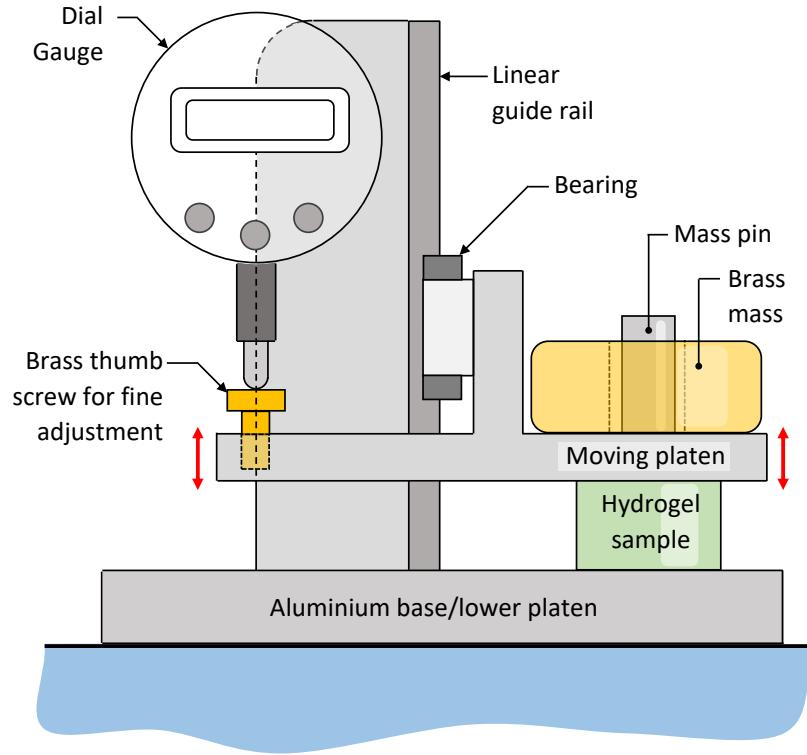

Figure 4: Schematic illustration of the compression set-up used for measuring the mechanical properties of agarose hydrogel.
In contrast to many engineering materials, hydrogels tend to have very low stiffnesses – typically ranging from 1 to 1000 kPa. Efforts need to be made to minimise the sample strain during measurements, since excessive straining occurs easily with such highly compliant materials and can produce misleading results. The inertia of the testing equipment is determined by the mechanical linkage system that is to be moved. In conventional testing machines, such effects can be significant. A customised set-up allowing such effects to be minimised has been designed here (Figure 4). In this experiment, you will apply a constant stress and measure the strain response in uniaxial compression.
- You will be provided with four samples of plain and salted agarose gels (two of each). The samples are 16 mm in height and 16 mm in diameter. The salted agarose has a small amount of food colouring in it to help identify. This has no effect on mechanical strength. The test will run once on each sample type, i.e. four runs in total. The variable will be the weight being added each time. There are five weights to choose from which are all labelled, each group should choose two weights. In your calculations remember to include the weight of the moving platen (Figure 4) - for values see label on your set-up.